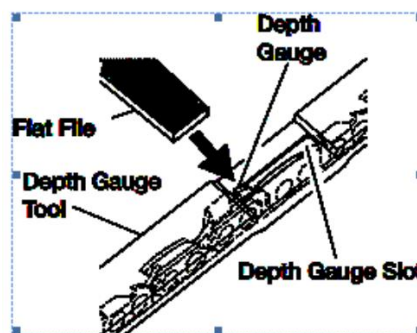

Figure.14
1. Place the depth gauge tool (.025 ") firmly on top of both knives. Ensure that the depth gauge fits into the slot in the depth gauge tool (see Figure 14).